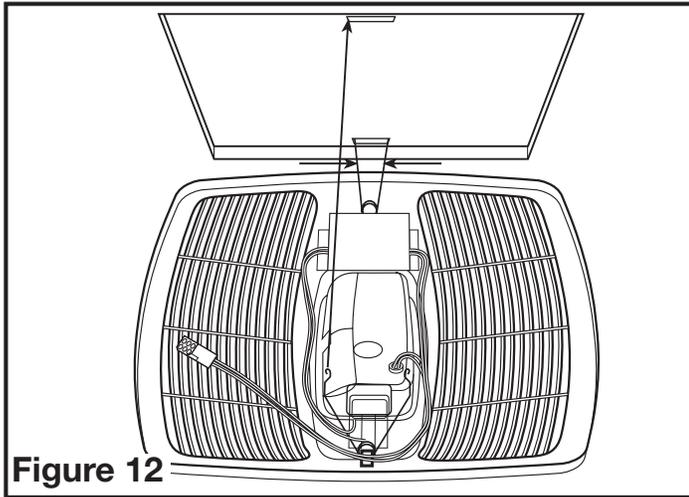

Figure 12
NOTE: If the mounting flange is installed on the fan housing, remove the two screws that connect the ceiling mounting flange to the housing and set aside (Figure 12).
5. Install the grill by squeezing the springs together and installing it up into the slot furthest from the wire compartment on the fan's housing. Attach the 4 pin quick connect from the grill to the 4 pin connector on the top of the wire cover. The cord will only fit one way into the receptacle. Install the other spring and push the grill up into position. (Figure 12).